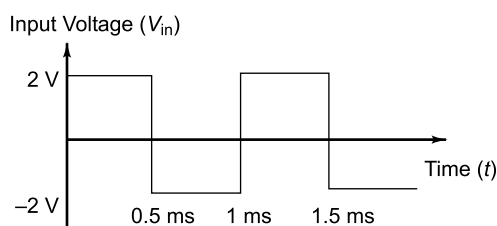

Fig. 5.92
29. When a square wave as shown in Fig. 5.92 is applied as input voltage to an integrator circuit, find out the output voltage. Assume $RC = 1$ second.